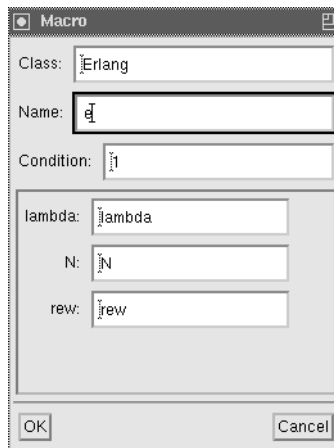

Figure 7: Macro parameters dialog.
- A macro invocation has the following parameters (see Fig. 7):